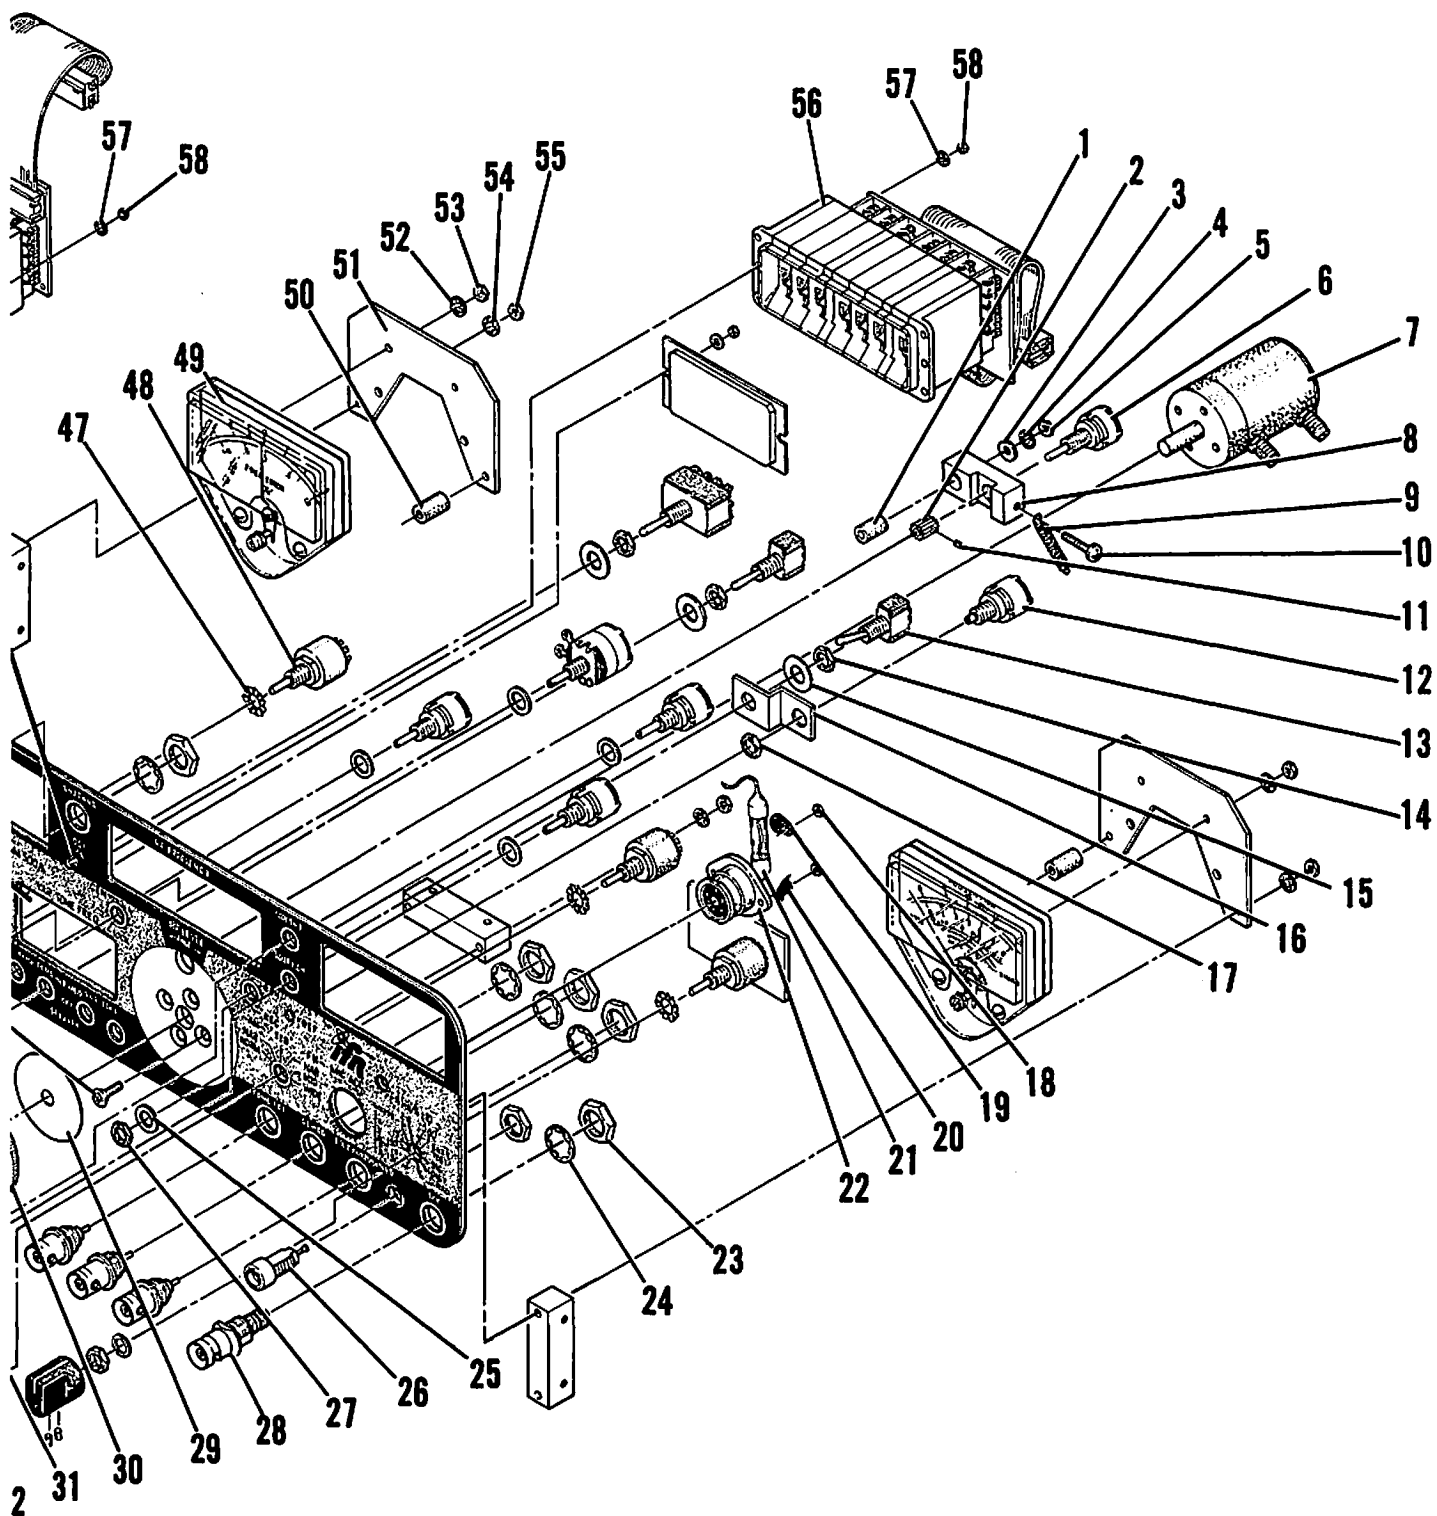

Figure 6-8 Front Panel Assembly
3. Remove one screw (37) securing each side of chassis to Front Panel (35).
4. Slide Front Panel (35) out of chassis (33) and disengage ribbon cable connectors from Mother Board (39).
5. Disconnect semi-rigid coaxes from T/R connector (Figure 6-8, Item 26) and step attenuator (Figure 6-8, Item 7).
6. Identify and unsolder two wires (in wrapped two-wire bundle running to chassis) from Power Switch (34).
## B. Disassembly (Figure 6-8)
#### 6-3-1 RF LEVEL ATTENUATOR (Figure 6-8)